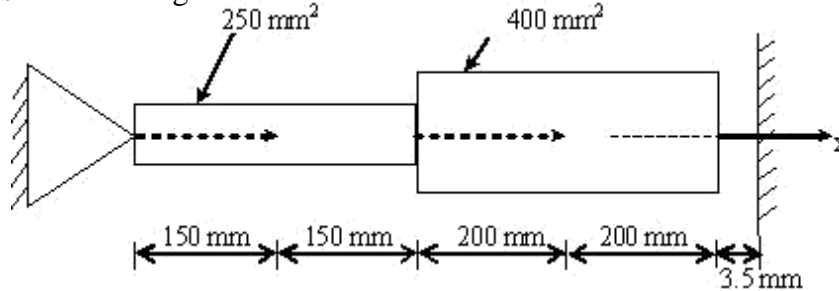

Figure.5
- b) Determine the nodal displacements, element stresses and support reactions for the bar as shown in Figure 5. Take $E = 200 \times 10^9 \text{ N/m}^2$.